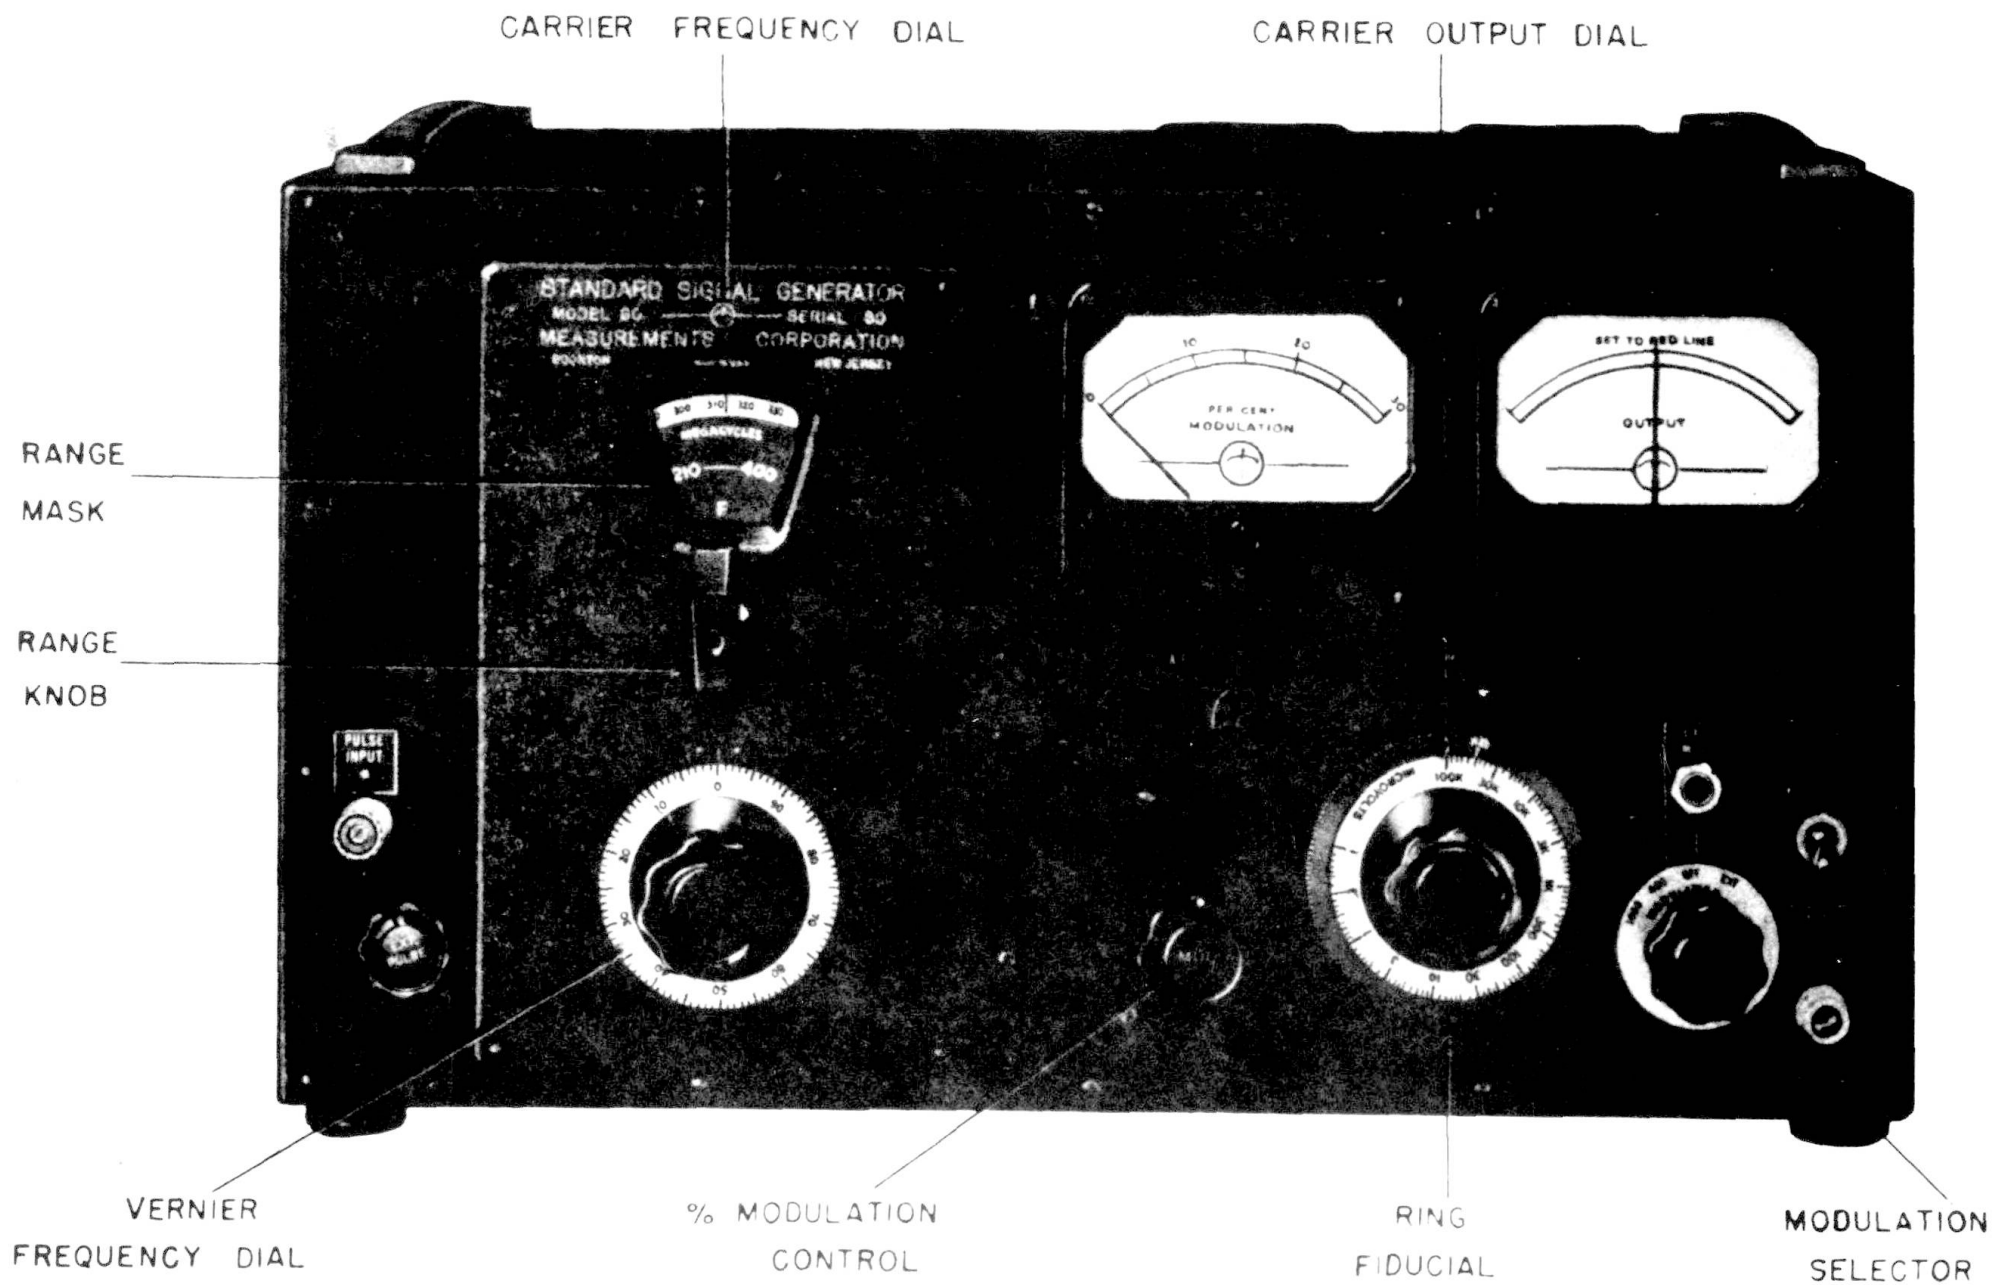

Figure 1-1—Front View of Model 80
b. After a brief warm-up period rotate the "Range" bar knob (see Figure 1-1), until the desired carrier frequency range appears in the dial window. Use sufficient torque when turning this knob to unseat the range detent and engage the desired range solidly in its proper contacts. Rock the knob slightly from side to side to test for detent.
d. Set the Output Meter pointer to the red center line by adjusting the Ring Fiducial (shown in Figure 1-1). This adjustment should be made during continuous-wave operation only.